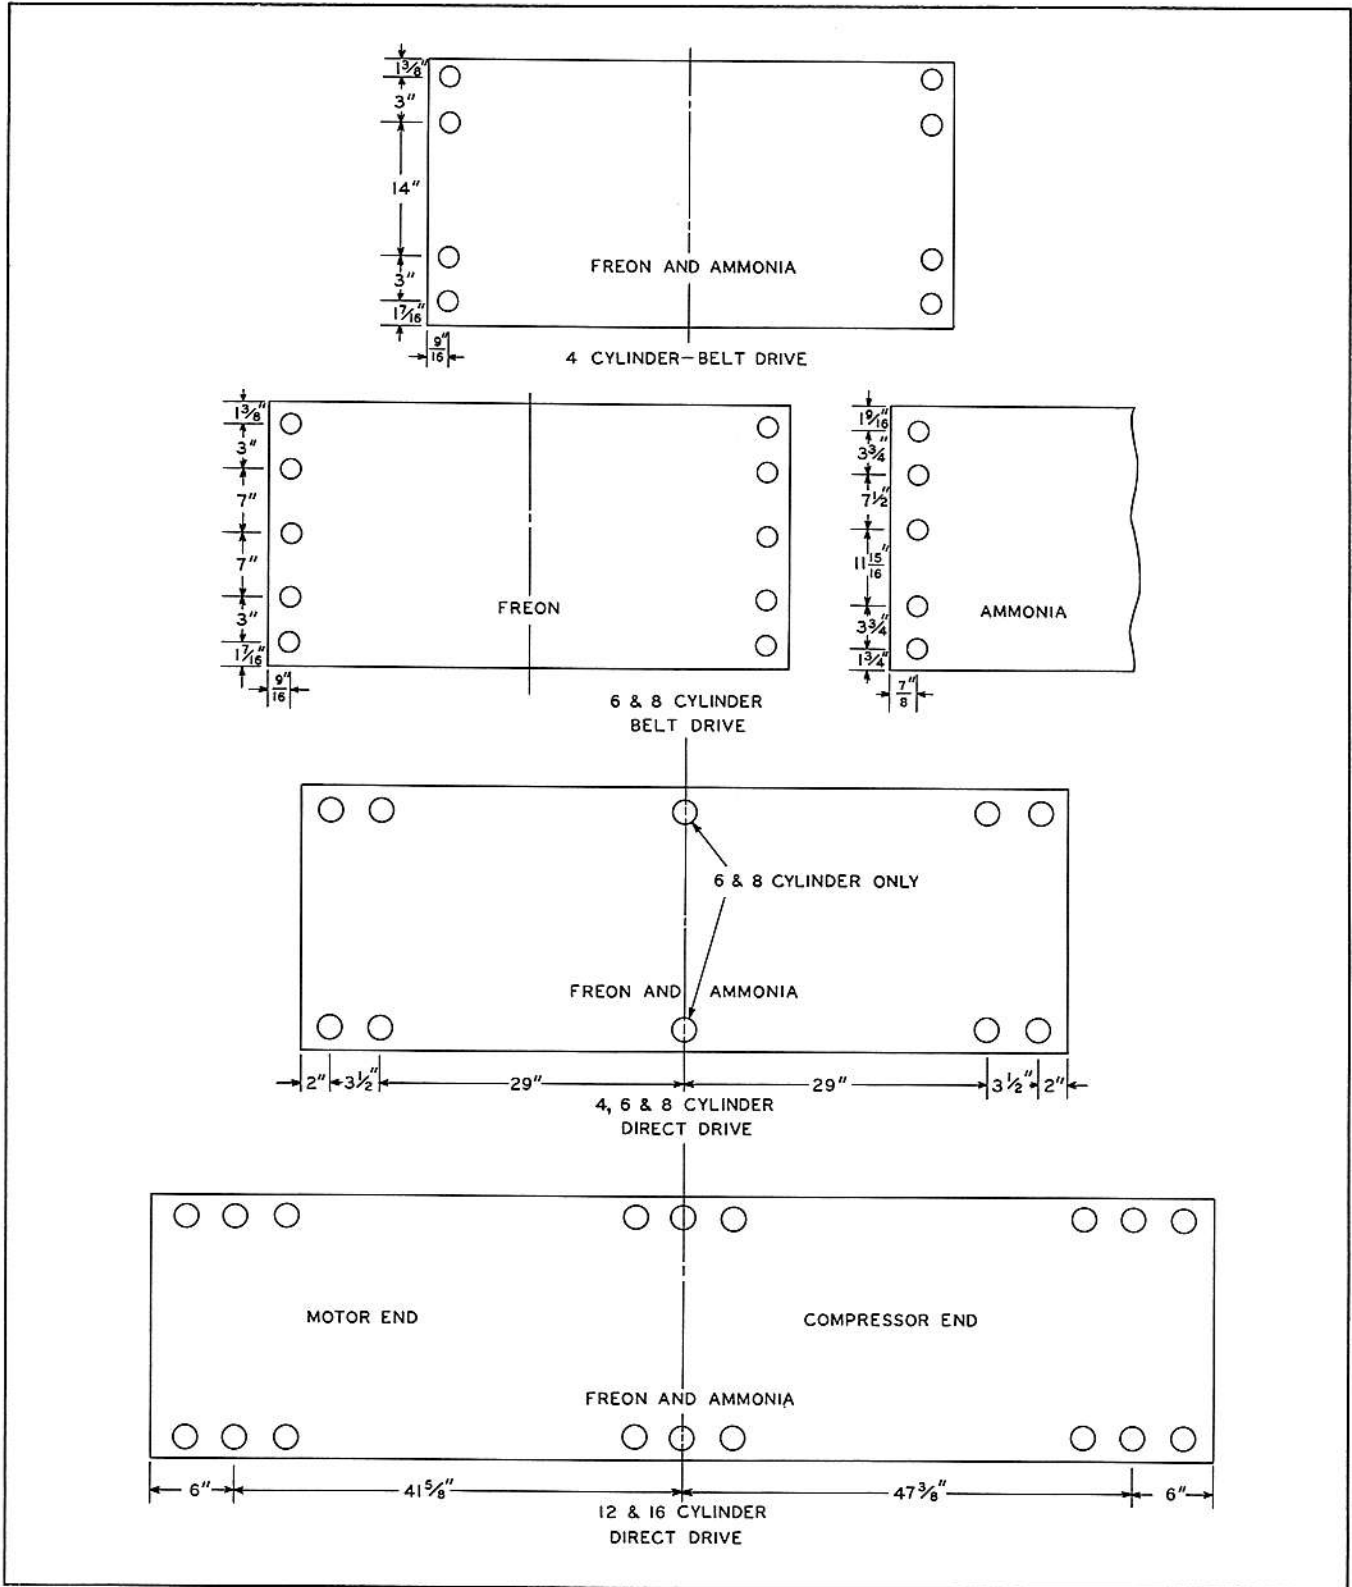

Fig. 14 - Suggested Location of Vibration Isolator Assemblies
The standard location for the isolator assemblies is shown by Fig. 14. These locations are satisfactory for most installations but on occasion it may be necessary to move the assemblies to compensate for heavier or lighter loads at the motor end.
- (d) Insert the shipping stud through the hole in the compressor unit base. See Fig. 14 for the suggested location of the isolator assemblies.
- (b) Fig. 14 should be used to determine the primary location of the spring assemblies.